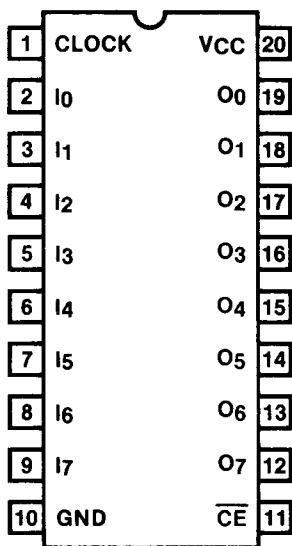

Figure 2-5. Pin Identification
1. After the selected inputs, I0 through I7 (Figure 2-5), and VCC at 4.5 to 5.0 V, have been stable for T1, raise the "Enable" (pin 11) to VEP. (See Table 2-20.)
9. Should the output not verify, repeat steps 2 through 8 up to five (5) times.